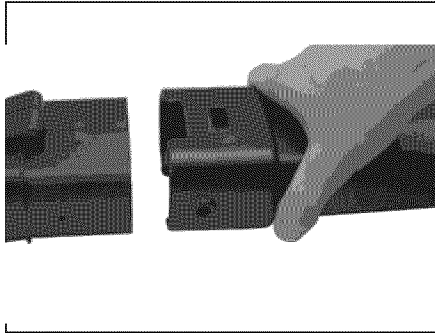

Figure 1 - Sliding blower tube into place
1. Slide the blower tube completely onto outlet on front of blower housing with the curved end of the blower tube facing up. (See Figure 1)